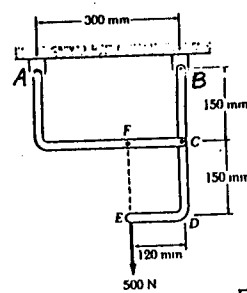

Fig.5
5. (20%) Determine the components of the reactions at A and B, (a) if the 500-N load is applied as shown in Fig.5, (b) if the 500-N load is moved along its line of action and is applied at point F (Fig.5).